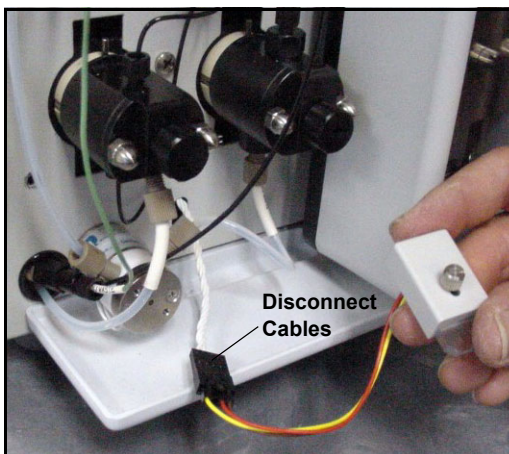

Figure 5-19. Leak Sensor Cable
5. The cable attached to the leak sensor connects to a cable inside the ICS-1000. Continue pulling the cable until the connectors for the two cables are outside of the panel (see Figure 5-19).